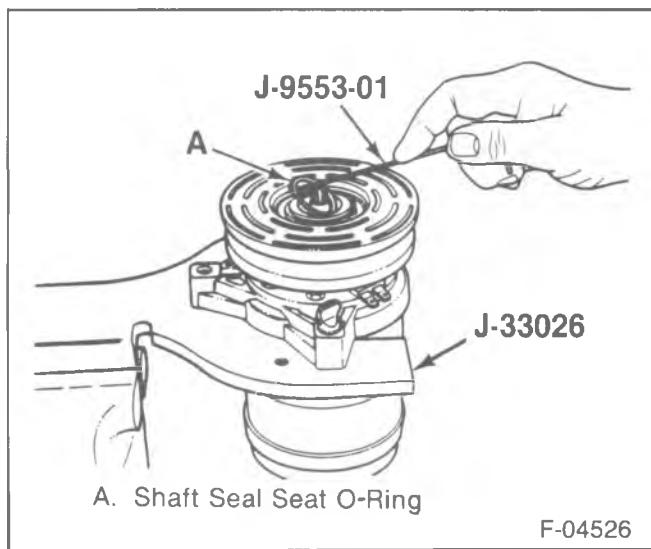

Figure 23—Removing the Shaft Seal Seat O-Ring
4. O-Ring seal using J-9553-01 (figure 23).